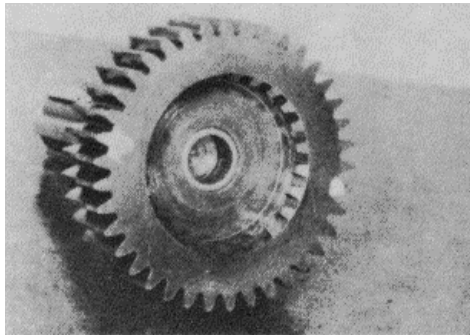

Figure 9B-34. Removing Drive Gear Bearing
6. Use a brass drift to remove bearing from the front of the drive gear bearing retainer, Figure 9B-35. The drive gear spacer can be removed from inside the retainer, at this time.